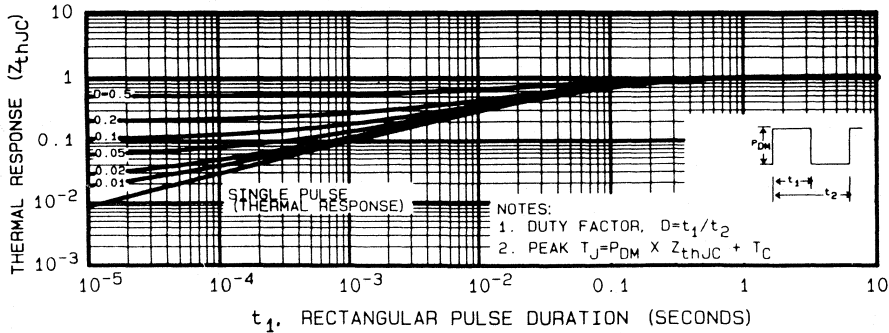

Fig. 5 - Maximum Effective Transient Thermal Impedance, Junction-to-Case Vs. Pulse Duration
① Repetitive Rating: Pulse width limited by maximum junction temperature (see figure 5).
② @ V_{DD} = 50V, Starting T_J = 25° C, L = 16mH, R_G = 25Ω, Peak I_L = 6.8A
③ Pulse width ≤ 300μs; Duty Cycle ≤ 2%